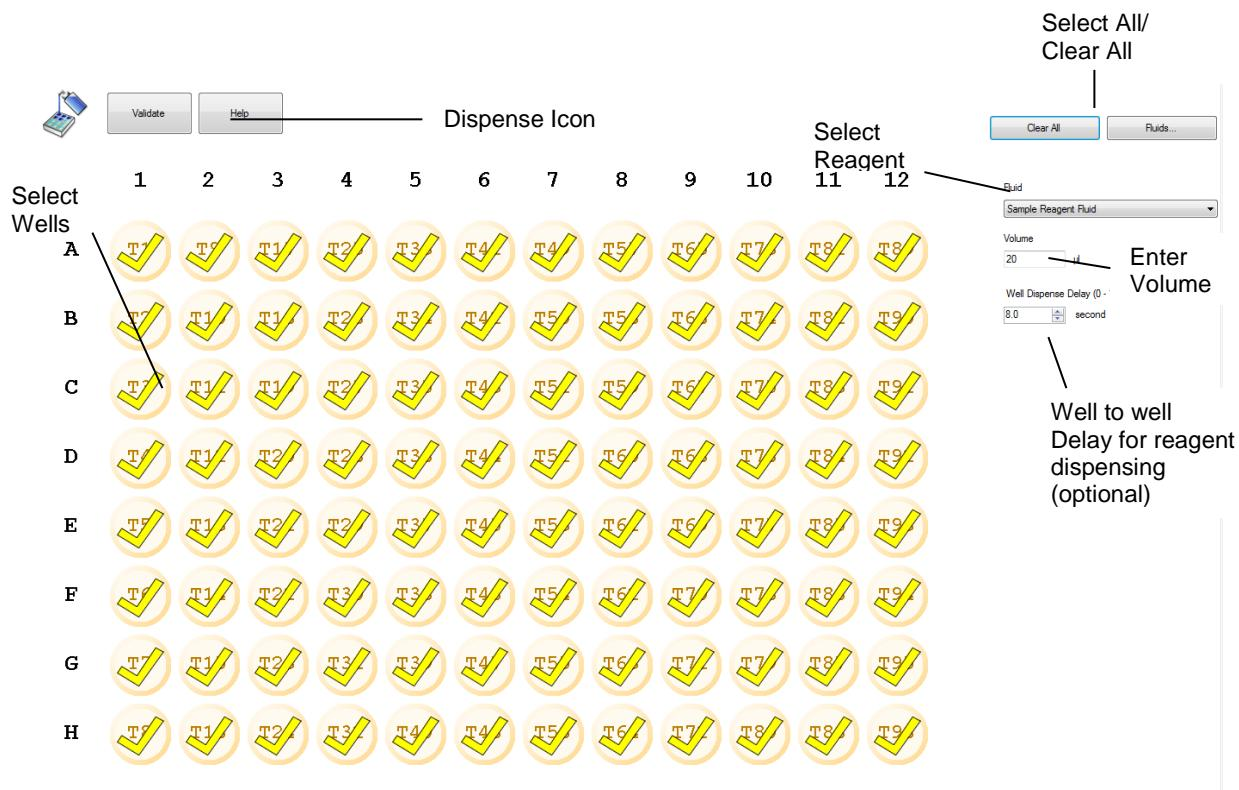

Figure 5-5: Programming Dispense Operation
- Click **Validate** when finished and continue to the Report Format tab (see figure 5.5).
Report Formats Tab (Figure 5.5)